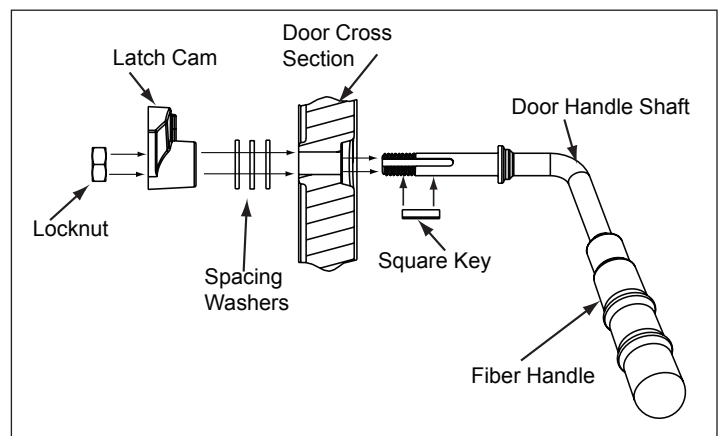

Figure 24.3 - Door Handle for Arched Door
3. Install additional washer(s) as shown in **Figure 24.3**.
7. Install handle turning in a counter-clockwise motion to desired location on door handle rod. **Figure 24.3**.